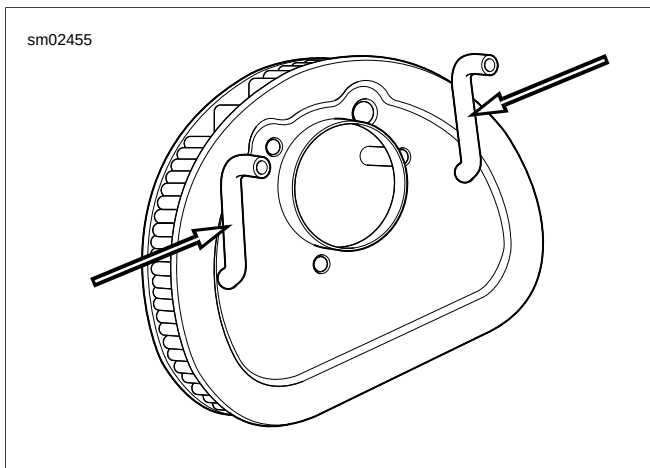

Figure 1-8. Breather Tubes on Backside of Filter
- Oval air cleaner:** See Figure 1-8. Insert two breather hoses into the holes in back of the filter element and place the element back into position. Attach breather hoses to breather screws on backplate.